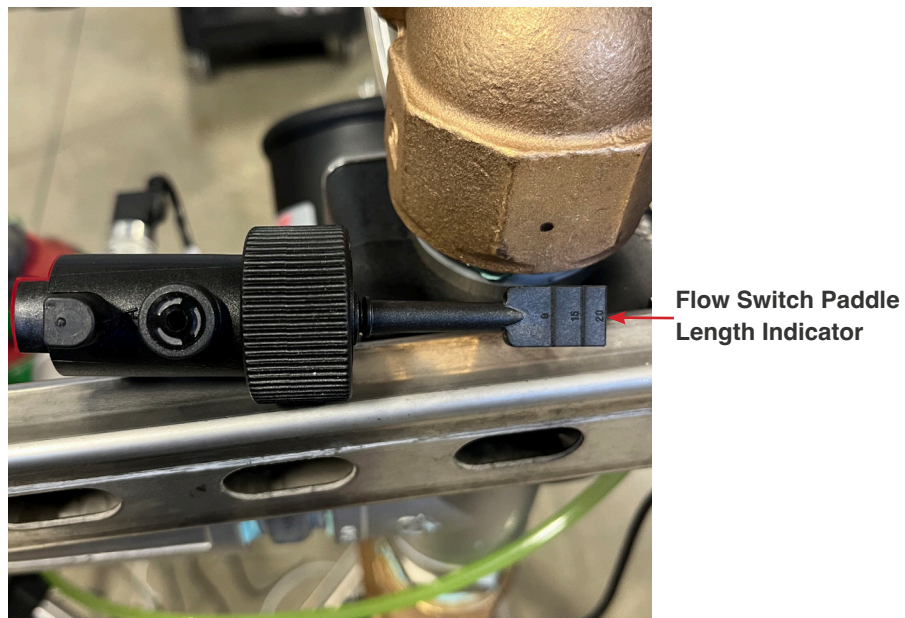

Fig. 7.2 - 4 - Flow switch and paddle length indicator
9. Run wires into the electrical enclosure through the grommet on the bottom of the enclosure (Fig. 7.2 - 5).